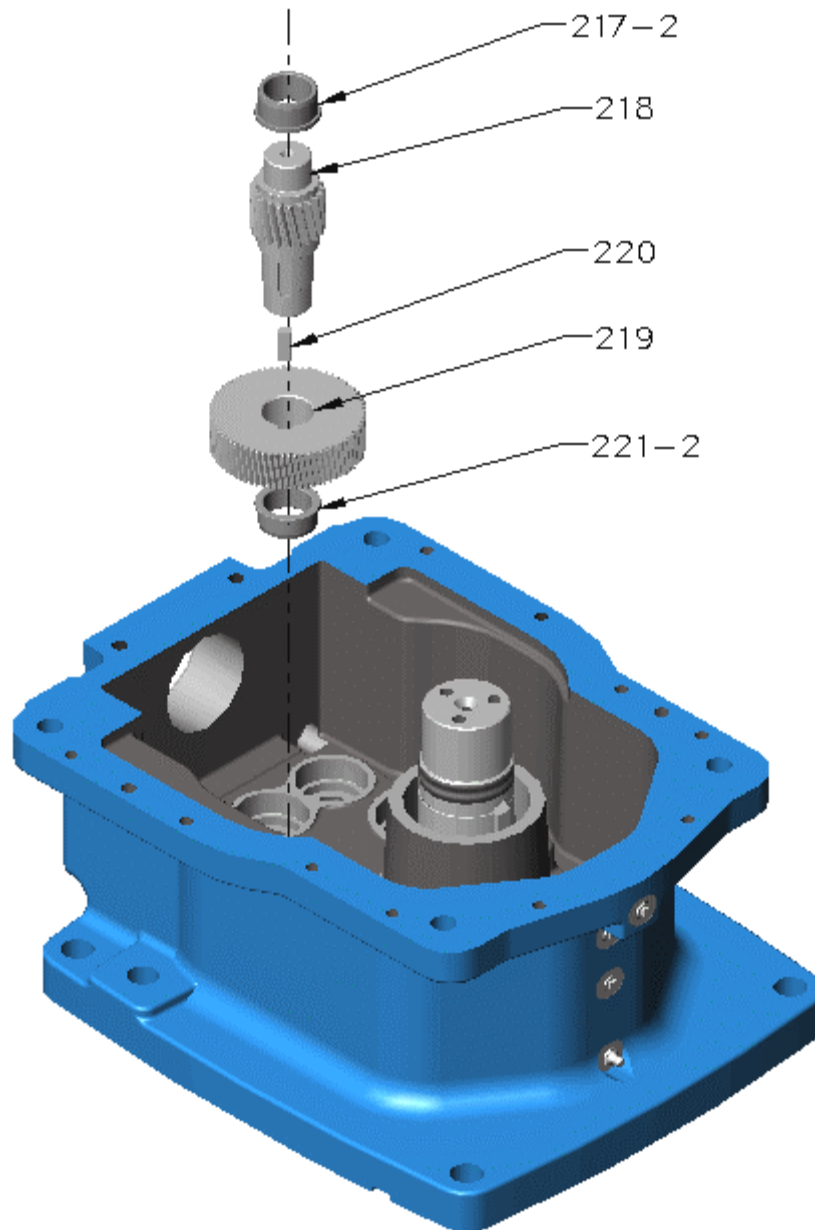

Figure 14 – Intermediate Shaft
- F. Intermediate shaft assembly (refer Figure 14):
- G. Install intermediate shaft assembly into bearing outer race [221-1] in the case bottom (refer Figure 14).